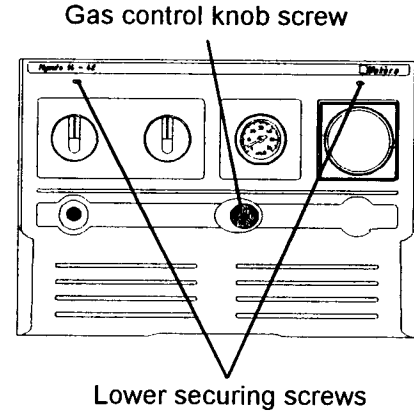

Fig.10
- 5.3.1 Release the centre screw of the gas control knob and pull knob forward remove the 2 screws securing the lower control panel to the upper outer casing. (Fig.10)